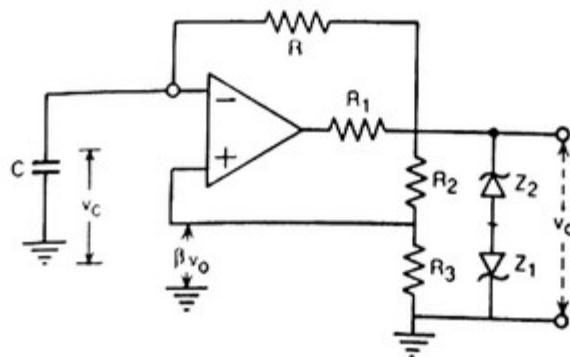

Fig. 26. Astable multivibrator.
(10) **Astable Multivibrator** : The operational amplifier operating as free running (astable) multivibrator is shown in fig. 26. In free running multivibrator, there are two states which remain momentarily stable and the circuit switches repetitively between these two states. OP-AMP enjoys both positive and negative feedbacks and has a timing capacitor,  $C$ , at its inverting input terminal. The output voltage  $v_o$ , is limited by the break down voltage  $+V_{0s}$  and  $-V_{0s}$  of the two zener diodes  $Z_1$  and  $Z_2$  connected back to back across the output terminals of the OP-AMP. Thus